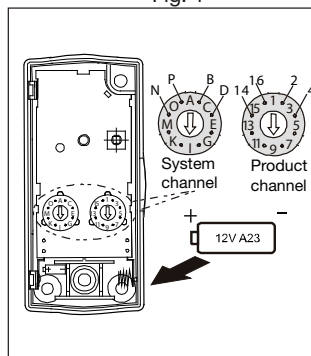

Fig. 2
2. Adjust the channel selection with a screwdriver. Fig. 2